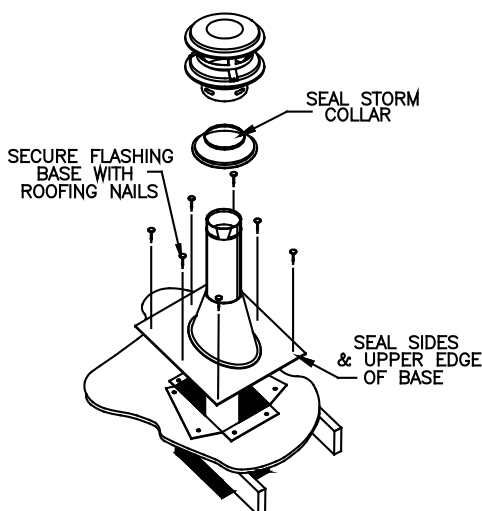

Figure 34
11. Slip Roof Flashing over the supported Pipe Section(s) protruding through the roof. Apply sealant to underside of Roof Flashing along upper edge and sides. Secure the base of Roof Flashing to the roof with roofing nails (**Figure 34**). Ensure that the roofing material overlaps the top edge of the Roof Flashing.